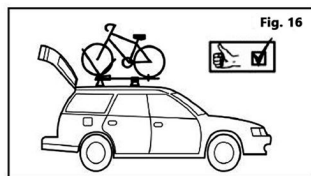

Fig. 16
a) Install bike carriers rearward facing (Fig 16) to avoid contact with fully opened lift gate.